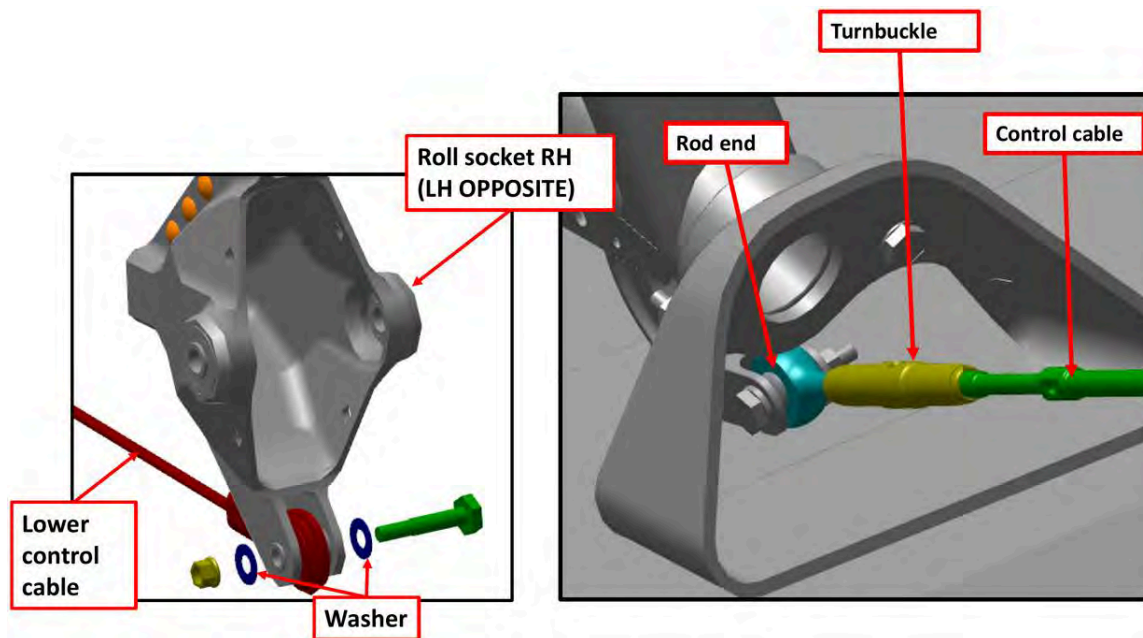

FIGURE 10-22
2. Starting from the center wing loosely route new lower roll cable from the roll socket to the torque tube bearing. Use Figure 10-22 for routing path. (See “Roll Socket and Torque Tube Connection Points” on page 10-30.)